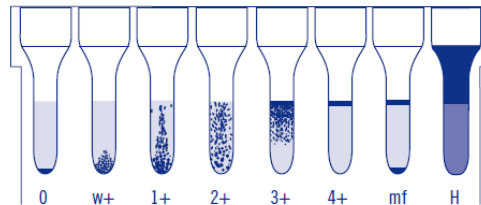

Figure 1. Picture of an example of reaction grades.
**Positive results:** agglutination and/or hemolysis of the red blood cells is visible in the microtube. In a positive result the agglutinated red blood cells may remain throughout the gel column showing a different reaction grades (see Reaction Grades and Figure 1 for a picture of example of reaction grades). Samples with normal expression of C, E, c and e antigens provide strong positive reaction grades. Weaker reactions may indicate a weak or partial expression of C, E, c and e antigens.